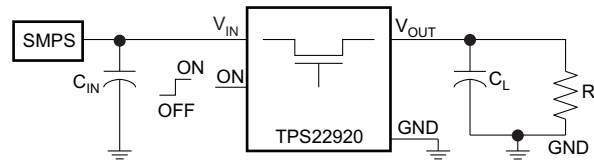

图 10. TPS22920 Simplified Application Circuit
The TPS22920 is a small, space-saving load switch with controlled turn-on to reduce inrush current (see 图 10). The device contains a N-channel MOSFET that can operate over an input voltage range of 0.75 V to 3.6 V and switch currents up to 4 A. An integrated charge pump biases the NMOS switch to achieve a minimum switch ON resistance (R_{ON}). The switch is controlled by an on/off input (ON), which is capable of interfacing directly with low-voltage control signals. The TPS22920 has a 1250- Ω on-chip resistor for quick output discharge when the switch is turned off, which ensures that the output is not left floating. The TPS22920 has an internally controlled rise time to reduce inrush current. The TPS22920 is available in an ultra-small, space-saving 8-pin CSP package.